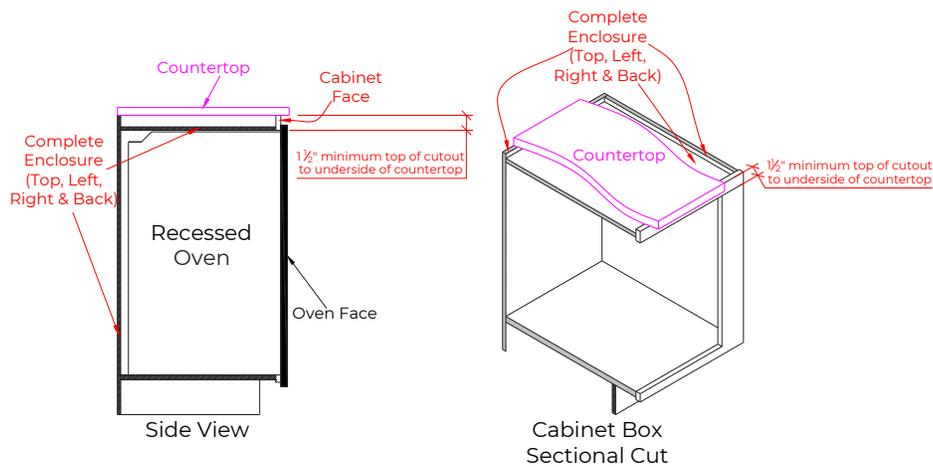

FIGURE 21
22. Undercounter recessed oven installation area must provide a complete enclosure around the recessed portion of the oven, per the manufacturer's installation requirements. See Figure 21.